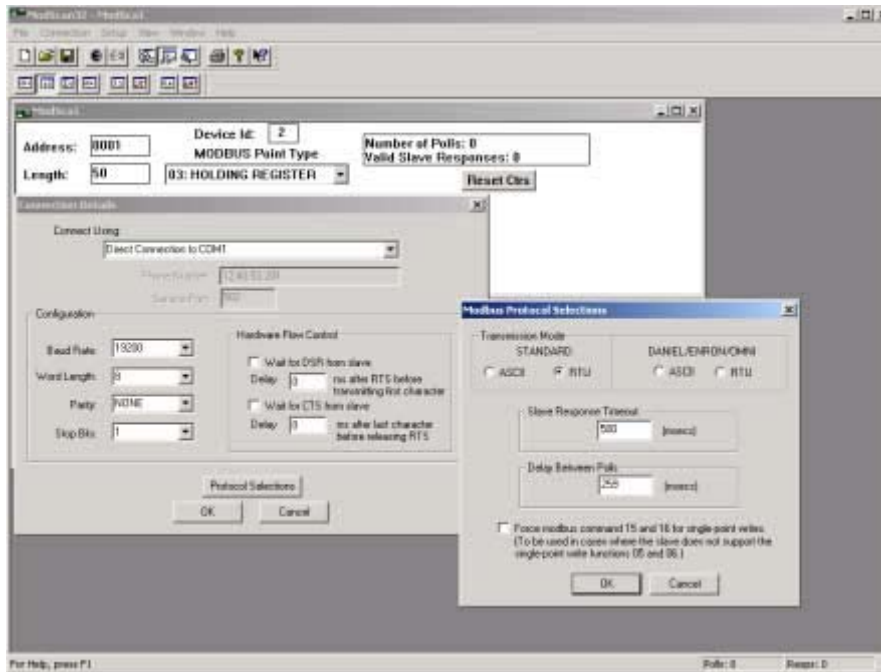

Figure 1.13: ModScan32 Master Scanning Program Serial Connection Setup
The Modbus Serial RTU protocol functions exactly like that of Modbus TCP with regards to how to access information and ModScan32 operation (see figure 1.13 for serial port setup versus TCP). There are some key differences since an RS232 connection is used versus a network connection. They are as follows:
5. Invoke another copy of ModScan32 on the same or different computer, with the serial port (COM1) connected to the 5100. Configure as per figure 1.13.